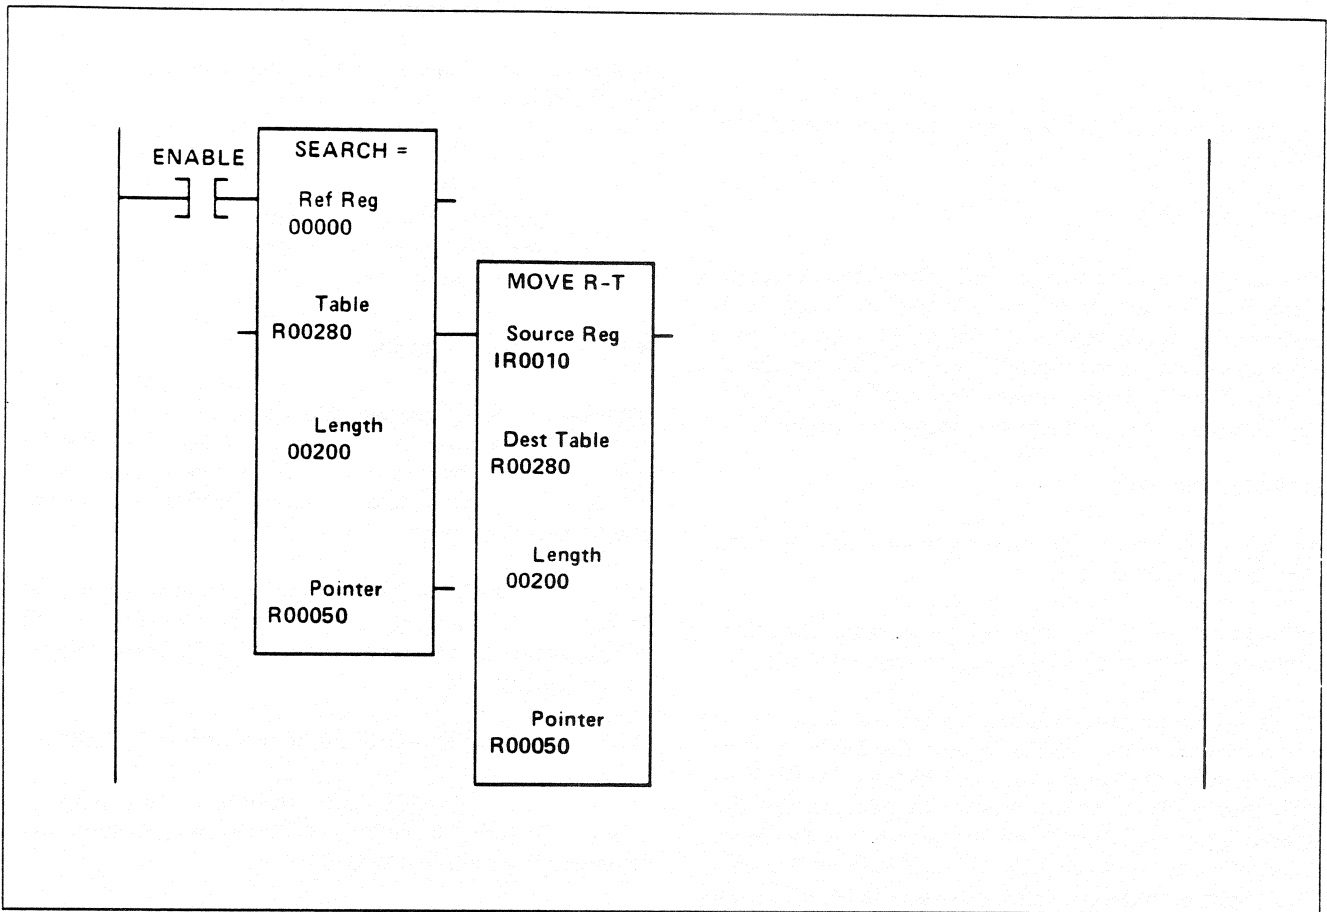

Figure SE-2. Search Application
The Search type functions allow data contained in registers to be searched for a range of values. One specific application is shown in Figure SE-2 where a table is used to store production data. Observe the Figure and note the following 4 points:
3. When an empty location is found in the table, the Move R-T function (094) loads the location with the production data from IR0010.
4. The network shown in Figure SE-2 does not show the functions associated with monitoring or clearing the data contained in the table.